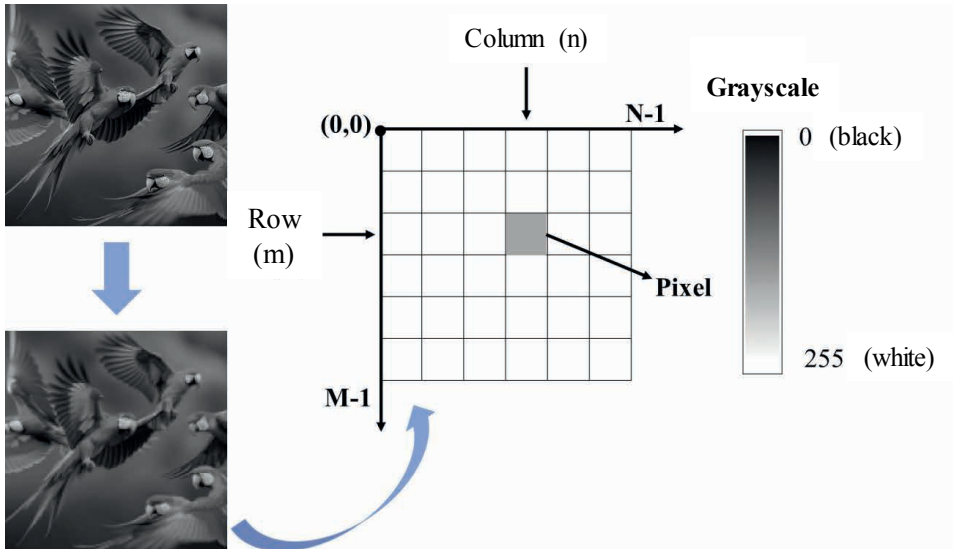

Figure 6.1: Representation of a digital image in the form of an $M \times N$ pixel matrix.
An image to be processed on a computer must be in digital format, and this is represented by a two-dimensional matrix of $M \times N$ pixels. The word pixel is an abbreviation of "Picture element", which means "image element". Thus, the pixel is the smallest element of a digital image and each pixel location in a monochrome image (normally 8 bits) corresponds to the gray level ranging from black (0) to white (255), thus being able to contain 256 levels of gray colors. Figure 6.1 presents a monochrome image and its representation in a digital image in the form of a data matrix.